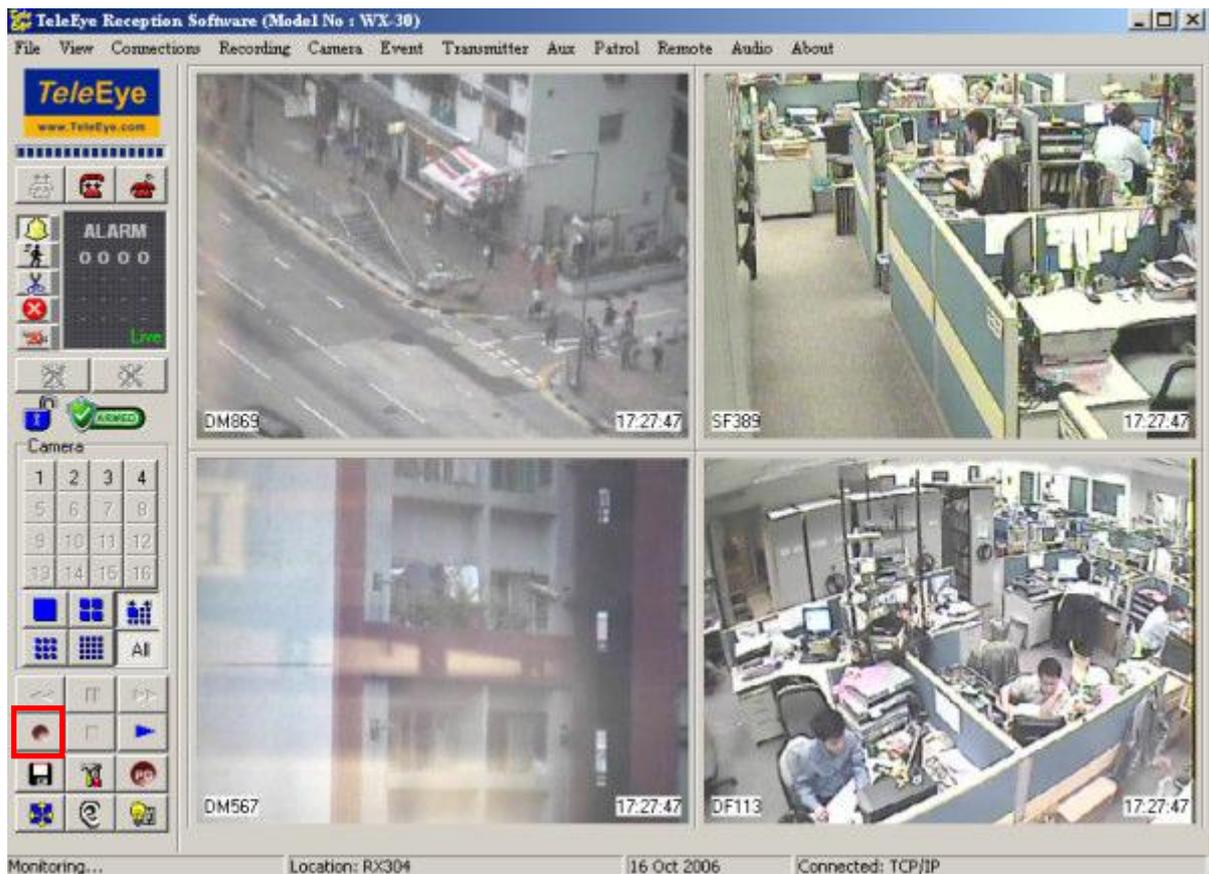

Fig 6.2a
Step 1 : Click [Record]  icon on the main panel as shown on Fig 6.2a.